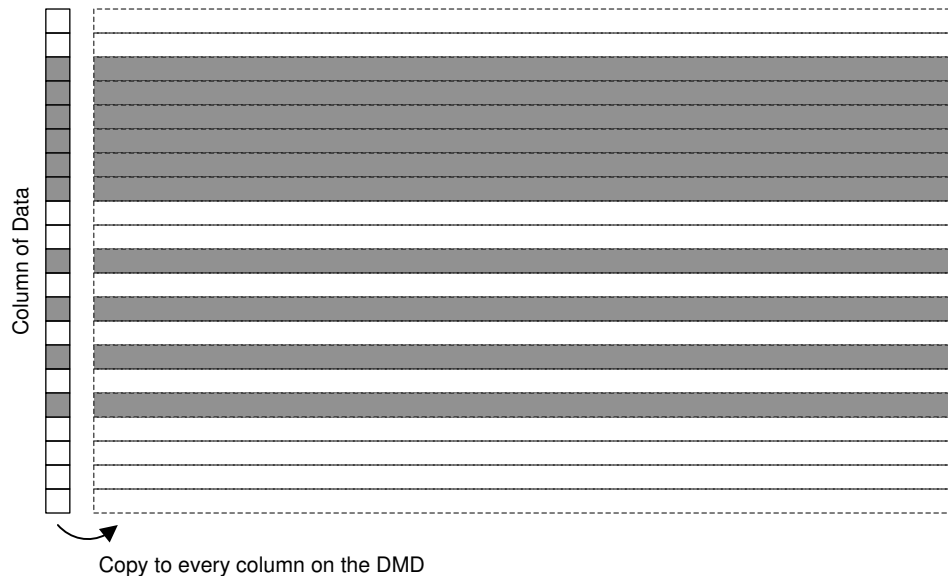

Figure 7-12. Column Replication
- Internal pattern mode only supports 1D patterns i.e the pattern data is same across the entire row or column of the DMD (Figure 7-12 and Figure 7-13).